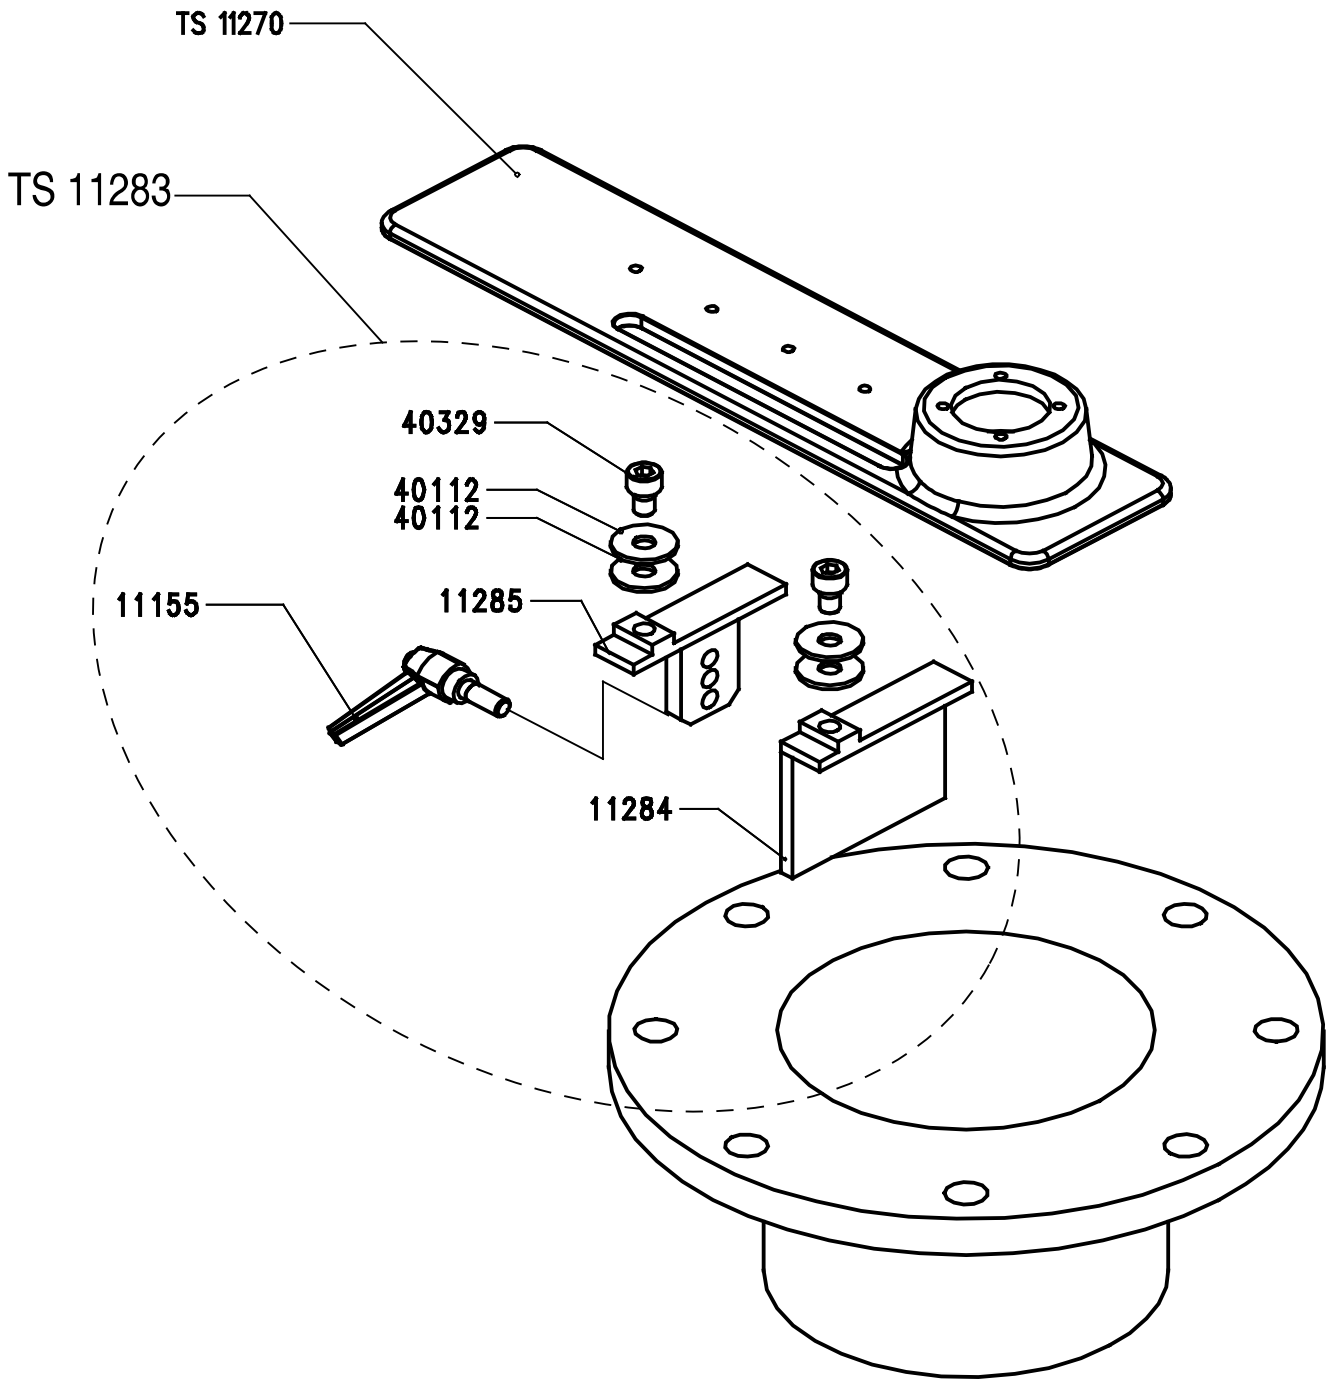

Figure 11-8: pipe clamp assembly
- -Figure 11-8: pipe clamp assembly